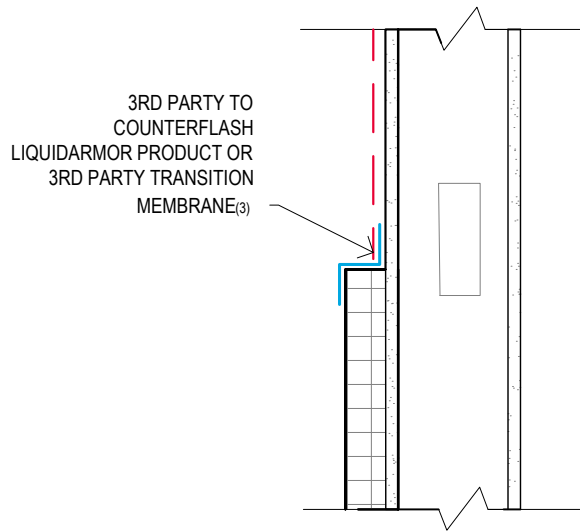

FIG 2: VERTICAL TRANSITION OF OTHER WRB TO ULTRA SL | SECTION
4. FIG. 2, 3, 4, SEE MIN. WIDTH OF LIQUIDARMOR™ FLASHING AND SEALANT REQUIREMENTS ON DETAIL UWS-SL02 ONTO FACE OF ULTRA SL AND FACE OF OTHER SUBSTRATE.